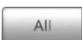

Figure 4-1 Sample Vehicle Menu Screen
1. Tap the **Diagnostics** application button from the MaxiSys Job Menu. The Vehicle Menu displays. (Figure 4-1).